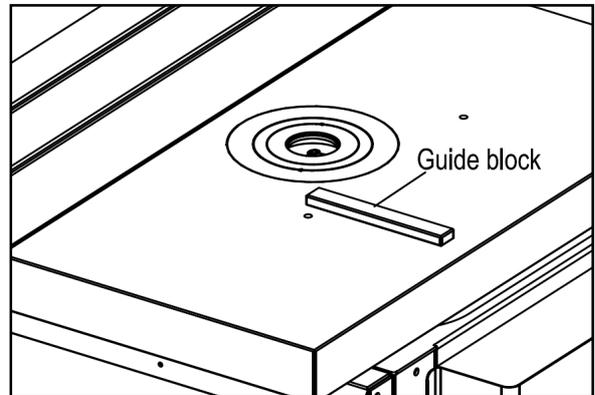

Fig.13
1) Mount the guide block to the table. (Fig.13)